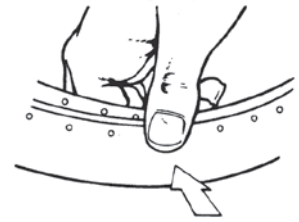

Figure 3
- Depending upon the thickness of your steering wheel ring, it may be necessary to stretch the leather cover together by hand to make stitching easier. Figure 3.